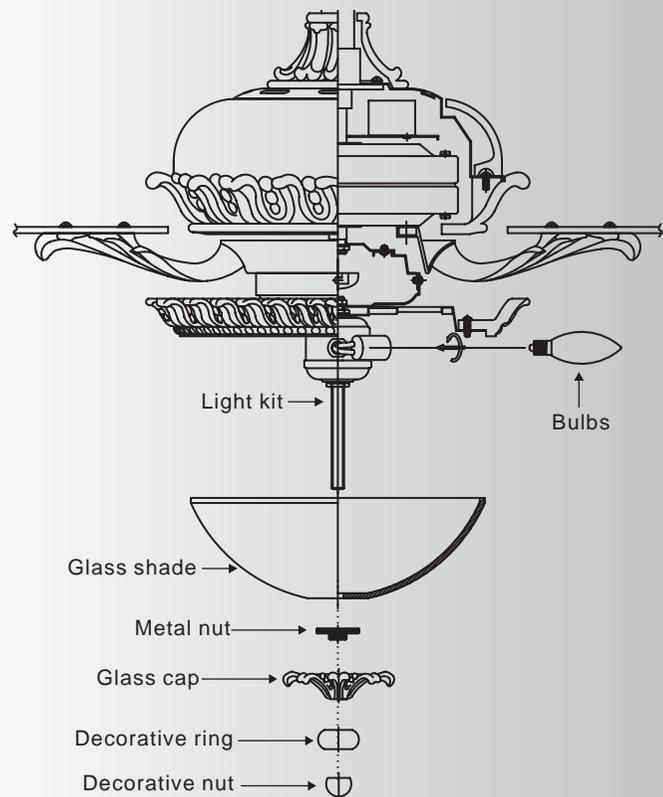

Fig. 20
2. Remove the decorative nut, decorative ring, glass cap and metal nut from the light kit. Place glass shade over the light kit stem, secure with the metal nut (rubber side on the top), decorative ring, glass cap and decorative nut. Do not overtighten. (Fig. 20)